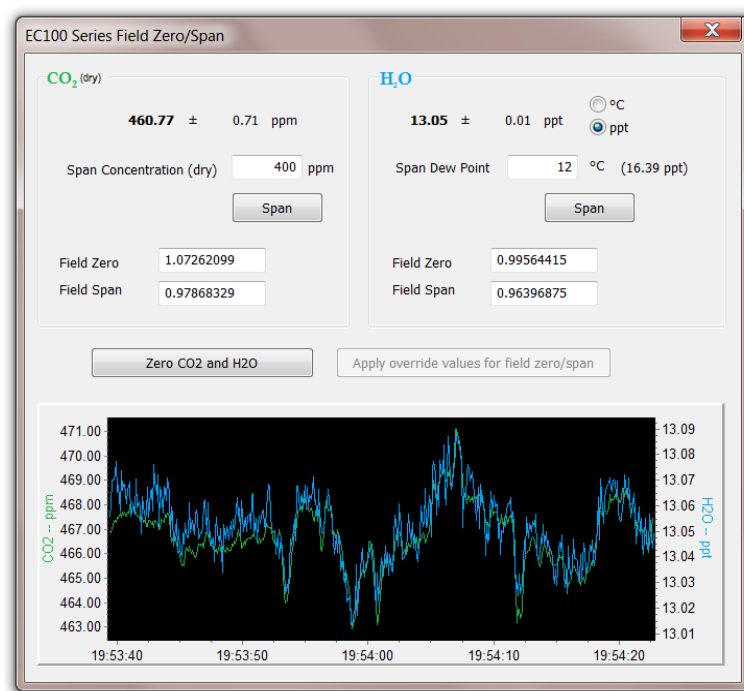

Figure 9-3. ECMon zero-and-span window
- g. Launch ECMon, select the appropriate USB port, and click **Connect**. The main screen should now be reporting real-time CO2 and H2O concentrations. Click **Zero/Span**. A graph will appear in the lower half of the zero-and-span window showing measured CO2 and H2O concentrations (see Figure 9-3).